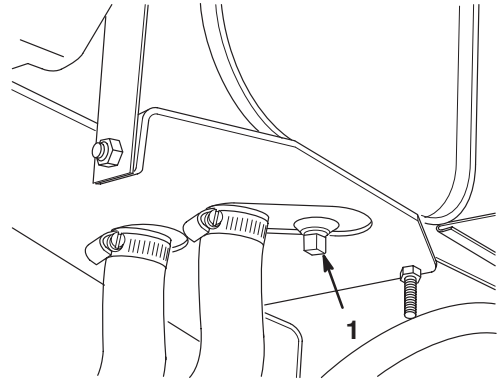

Figure 39
1. Remove the drain plug from the reservoir (Fig. 39) and let hydraulic oil flow into a drain pan. Reinstall and tighten the plug when hydraulic oil stops draining.